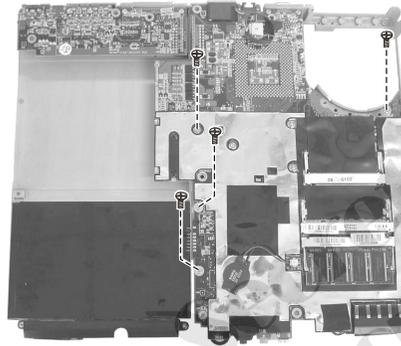

Figure 2-30 Remove the system board
10. Carefully turnover it again. Remove four screws fastening the system on the gasket. (Figure 2-30)